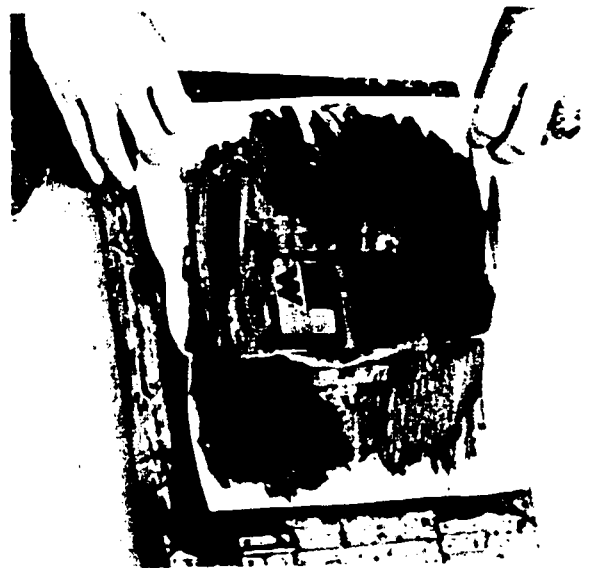

Fig. 169-2. Silk Screening Logo Mask
4. See Fig. 169-2 for a silk-screen mask. Using an oak tag "mask" around the design saves much time in cleanup. Run the squeegee over the design to remove excess paint just before removal of the mask.